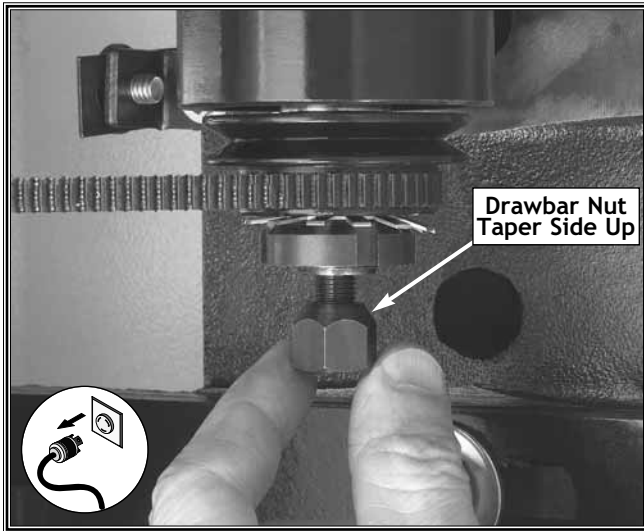

Figure 20. Threading drawbar nut onto drawbar.
6. Thread the tapered drawbar nut onto the end of the drawbar under the table, and make sure that the taper side of the nut is facing upward as shown in Figure 20.